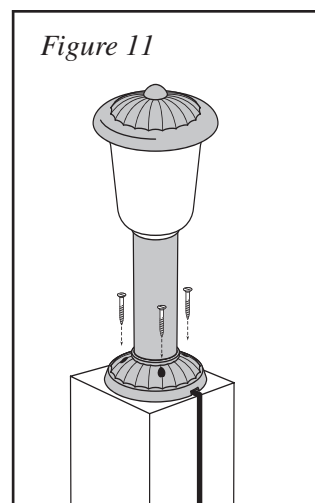

Figure 11
6. Use the self tapping screws provided to attach the assembled fixtures to the gate posts. Additional hardware may be required depending on the type of gate posts you have. See *Figure 11*.